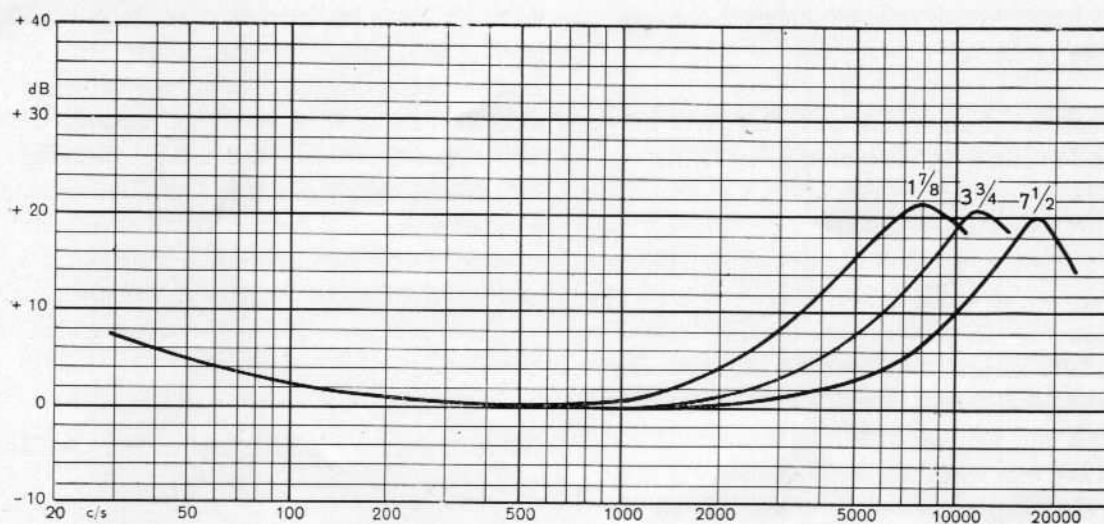
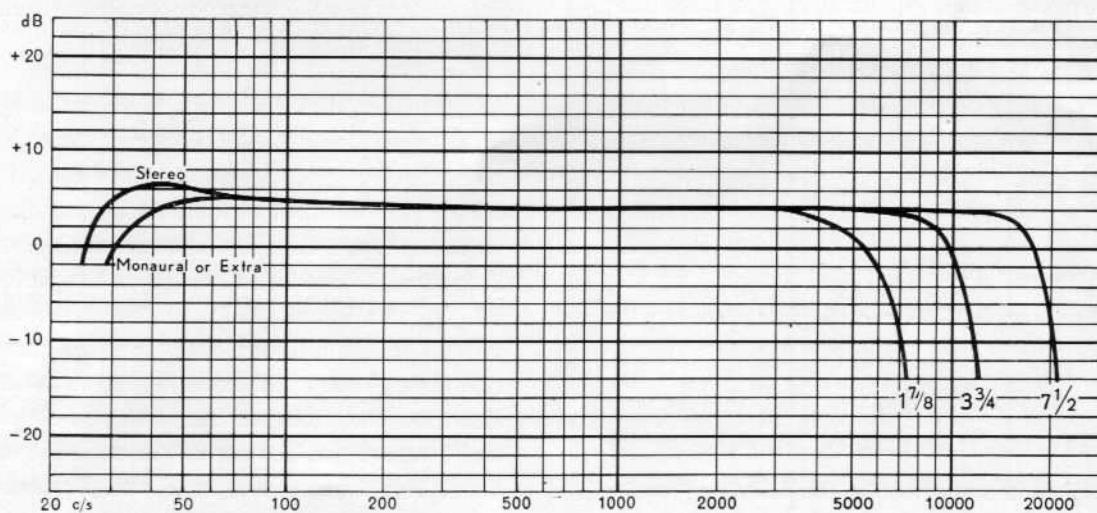

Fig. 3.
Fig. 5.
The decrease in gap width has made it possible to change to 100  $\mu$ S playback equalization curve at 3  $\frac{3}{4}$  ips and 250  $\mu$ S at 1  $\frac{7}{8}$  ips and yet increase the frequency response. The redesigning of the head together with the two potentiometers R21 and R21B has reduced the Q value of the head and decreased the resonance peak both in playback and recording. The decrease in Q value is wanted in playback because the reduced gap reduces the playback losses. To obtain correct preemphasis in recording position, a resonant circuit has been introduced in the feed back loop in recording position. This resonant circuit (L5—C9) is placed in the cathode of the first triode of ECC83 and is tuned to approx. 18 000 c/s at 7  $\frac{1}{2}$  ips. By means of C9B and C9C this peak is changed to approx. 12 000 c/s and 8 600 c/s at 3  $\frac{3}{4}$  ips and 1  $\frac{7}{8}$  ips respectively. By means of the core in L5 minor corrections at the high frequency response can be made. Fig. 3 and 4 shows the frequency response of the record and playback amplifiers at different speeds. Fig. 5 shows the total frequency response of the Recorder.
2. Adjust the oscillator frequency rejector circuit L1 (27.1). See photographs S.M. Fig. 17 and 18 and schematic S.M. Fig. 5. The V.T.V.M. is attached to point P in schematic S.M. Fig. 20 and should indicate about 5 volts when the circuit is adjusted for minimum.
2. The frequency response curve of the recording amplifier. In the position for recording, the frequency response of the upper track amplifier is changed by changing the speed. Drive the amplifier with a voltage corresponding to 20 dB below maximum recording level. The response curves should be as shown in Fig. 3, curves  $7\frac{1}{2}$ ,  $3\frac{3}{4}$  and  $1\frac{7}{8}$ . The response is checked at all three speeds. The sensitivity at 1000 c/s should be between 100 and 200 mV across the input terminals in back of the recorder, when the voltage across 1000 ohms in series with the head is 90 to 110 mV and the volume is set to max.
The above comparisons apply to the  $7\frac{1}{2}$  ips speed since the equalization curves at this speed are unchanged. At  $3\frac{3}{4}$  ips and  $1\frac{7}{8}$  ips a much greater improvement in noise level is obtained by changing the playback equalization curves. As will be seen from Fig. 3 this improvement has to a certain extent increased the risk of overloading the tape at the higher frequencies. One disadvantage with the Model 5 compared with the Model 3 Stereo is that the Model 5 requires a better adjustment of the tape path, and therefore faults may be caused by improper tape transport. Another difficulty is the erasing in STEREO position. There is a rather critical balance between sufficient erasure and unwanted erasure